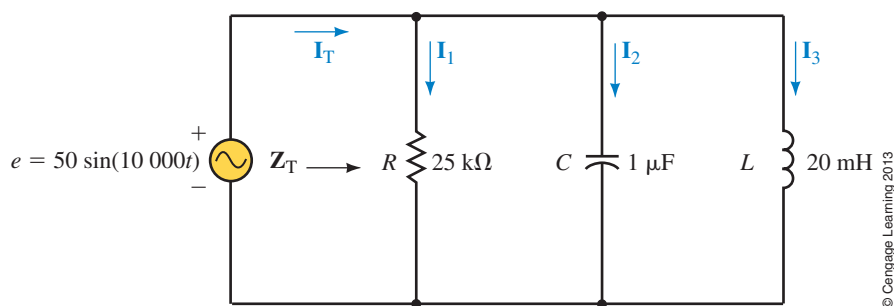

FIGURE 18-104
34. Refer to the circuit of Figure 18-104.